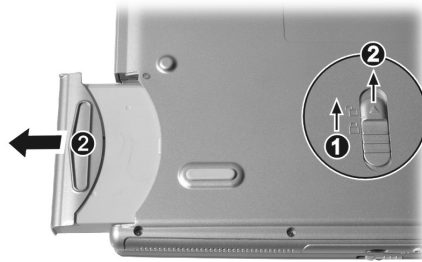

Figure 2-1 Remove the battery pack
2. Slide the release lever to the “unlock” (🔓) position (❶), then slide and hold the release lever outwards and pull the battery pack out of the compartment (❷). (Figure 2-1)